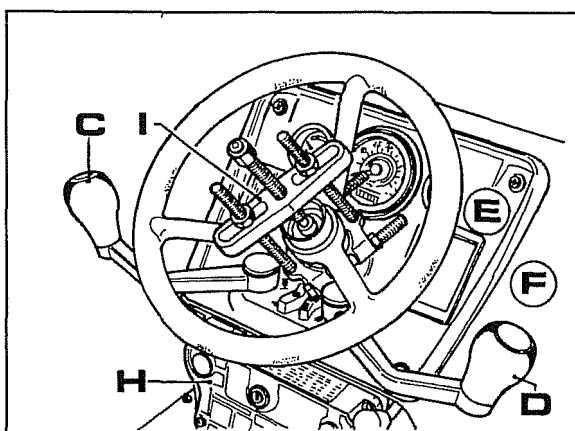

Fig. 9
2. Use an extractor like the one shown in Fig. 9 (**I**) to remove the steering wheel.
3. Remove the speed range control lever **C**, the gear lever **D** and the dashboard **E** Fig. 9.
4. Remove the ignition block **H** Fig. 9 and disconnect the front electric system terminal block from the rear one.
5. Remove the sheet-metal frame piece(s) **F** Fig. 9 that support the dashboard.